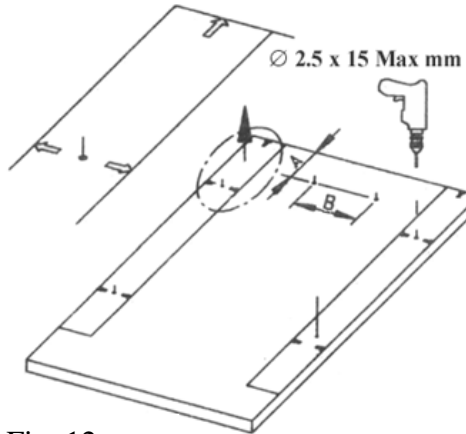
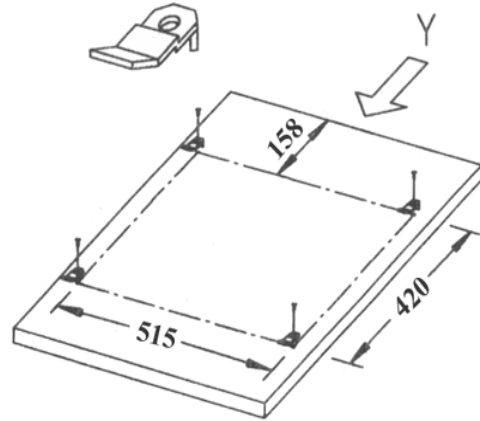
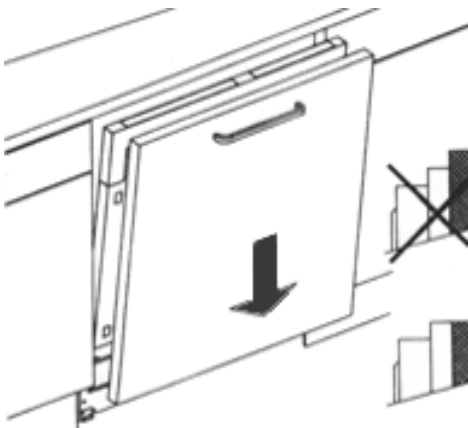
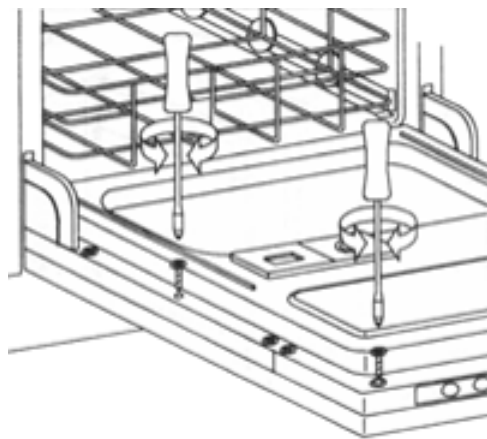

Fig. 12
Fig. 13
Fig. 14
Fig. 15
9. To fit the décor door: use the template on the back of the appliance door and drill holes (see Fig. 12). Fit support brackets in position shown (Fig. 13). Open the appliance door and fit décor door in position shown (Fig. 14). Open the appliance door with décor door and fix in position with 4 screws (Fig. 15).